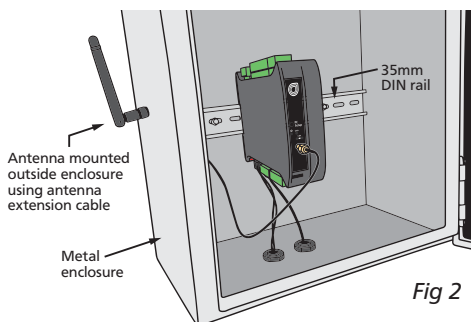

Fig 2
B - Metal Enclosure (Fig 2)
- A Installing the unit in an earthed **Metal Enclosure** (as in Fig 2). This is particularly useful if the control box is mounted close to large power switching devices like contactors. Every switching cycle there is a possibility of generating a large amount of near field radiated noise. The **Metal Enclosure**, acting as a faraday cage, will shunt this radiation to ground and away from the unit.